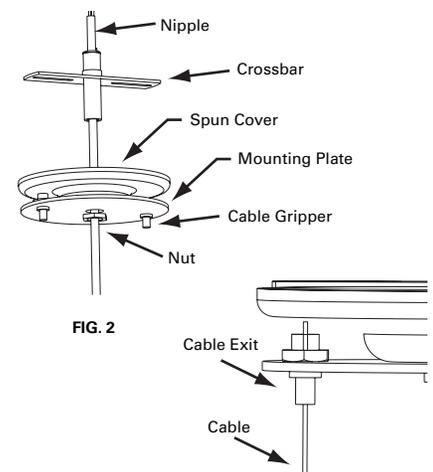

FIG. 2
5. Loosen and remove nut from nipple to allow mounting plate and spun cover to slide down electrical cord exposing the crossbar. **FIG. 2**